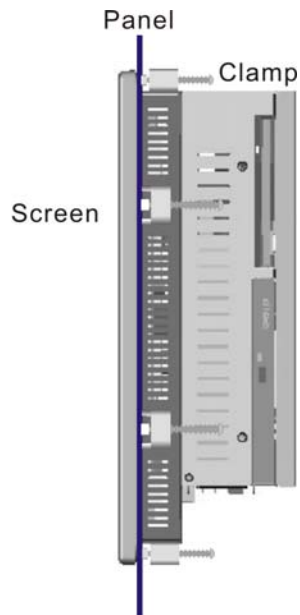

Figure 3-29: Tighten the Panel Mounting Clamp Screws
Step 5: Tighten the screws that pass through the panel mounting clamps until the plastic caps at the front of all the screws are firmly secured to the panel (**Figure 3-29**).